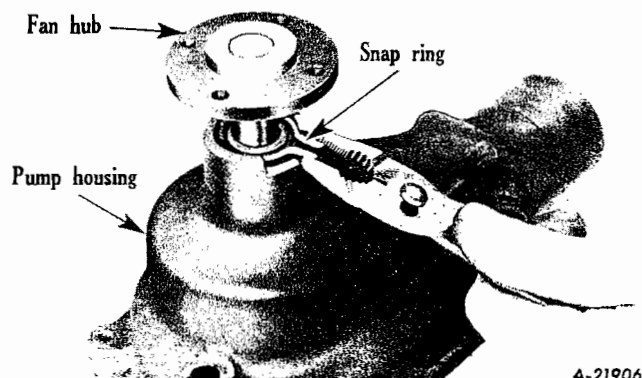

Fig. 39
- Install snap ring in place behind fan hub (Fig. 39).